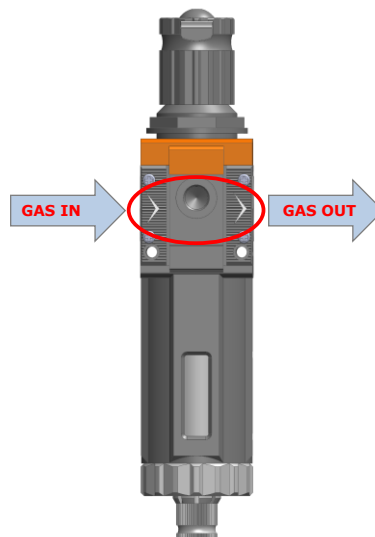

Figure 7. Input and Output gas ports. See symbol on the rear of pressure gauge.
1. Install the supplied pressure gauge between the CO2 supply and CO2-O2-UNIT-BL [0-10; 0-1]. Install the supplied pressure gauge between the N2 supply and CO2-O2-UNIT-BL [0-10; 0-1]. Follow the arrow on the rear of the pressure gauge for the correct Gas In-Out (see Figure 7).